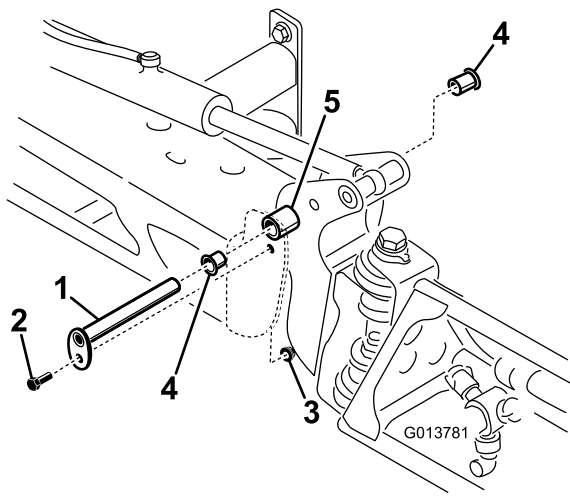

Figure 79
3. With the weight of the boom supported, remove the bolt and nut securing the pivot pin to the boom assembly (Figure 79).
4. Remove the pivot pin (Figure 79).
6. Remove and inspect the nylon bushings from the front and back sides of the pivot bracket (Figure 79).
8. Install the boom and pivot bracket assembly into the center frame, aligning the openings (Figure 79).